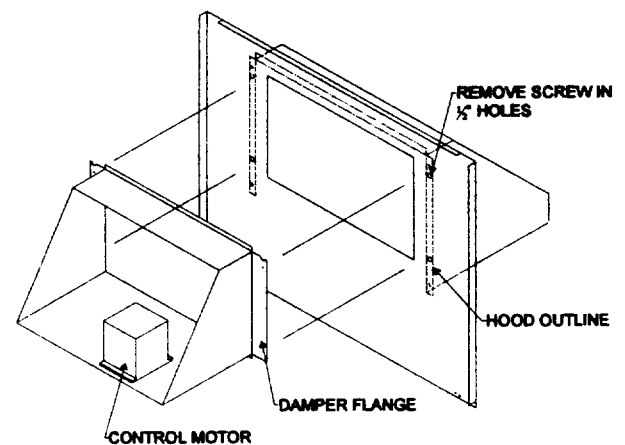

FIGURE 2
- 2—Remove 1/2" screws located in clearance holes of hood on OAD panel. See Figure 2.
- 4—Place damper section to engage 1" screws in flange of damper. See Figure 2.